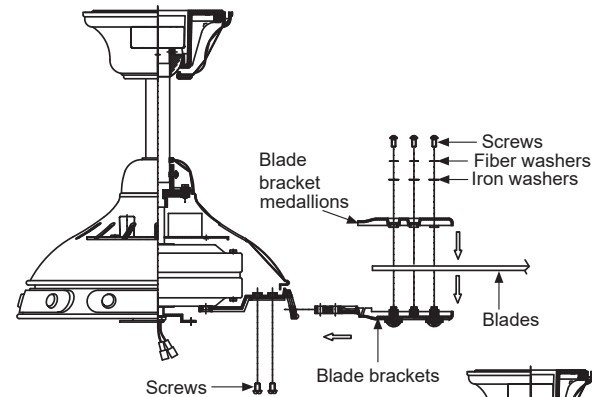

Fig. 17
Step 1. Place a blade between a blade bracket and a blade bracket medallion. Attach all three pieces using the screws, fiber washers and iron washers provided. (Fig. 17)
Step 2. Attach each blade assembly to the motor using two mounting screws for each blade assembly. (Fig. 17)